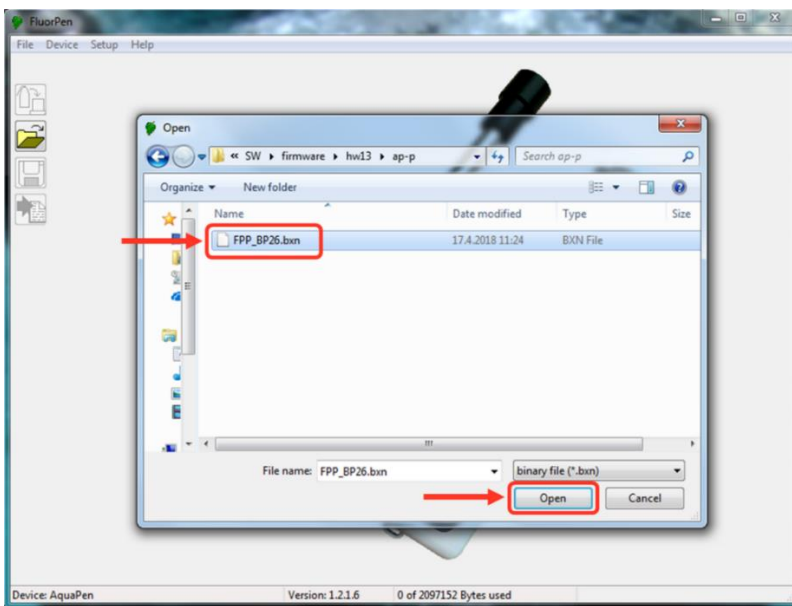

Fig. 31 Selection of the firmware file.
3. Selecting .bxn file. Find firmware update file (a binary file with the extension .bxn provided from PSI) and select **Open** (Fig. 31).